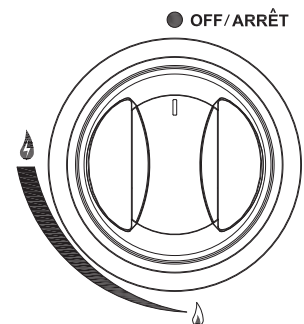

Figure 3
2. Make sure control knobs are in the "● OFF" position (Figure 3).
3. All control knobs must be in the "● OFF" position (Figure 3).
3. Control knob must be in the “●OFF” position (Figure 3).